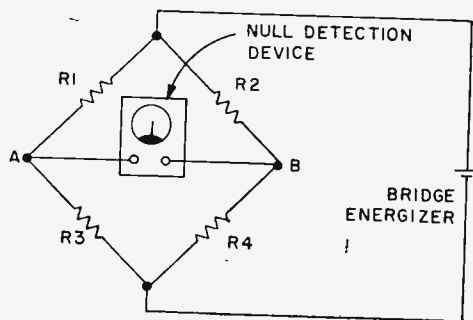

Fig. 1—The Wheatstone bridge, as it is usually drawn, in a diamond configuration. When  $R1/R3 = R2/R4$ , the meter will read zero volts.
**Sir Charles' Bridge.** The Wheatstone Bridge, as you probably guessed, is named after its inventor, the English physicist, Sir Charles Wheatstone. This basic circuit is used to measure electrical resistance with great accuracy. Figure 1 shows the drawing of Sir Charles' bridge in its most familiar form. It's traditionally drawn in the shape of a four-sided diamond, each leg representing a resistor element.